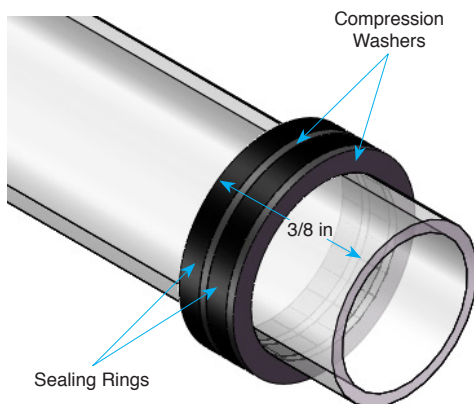

Figure 3: Quartz Tube Seal Assembly Detail
- i. Arrange the Sealing Rings and Compression Washers on the Quartz Tube as shown in Figure 3.